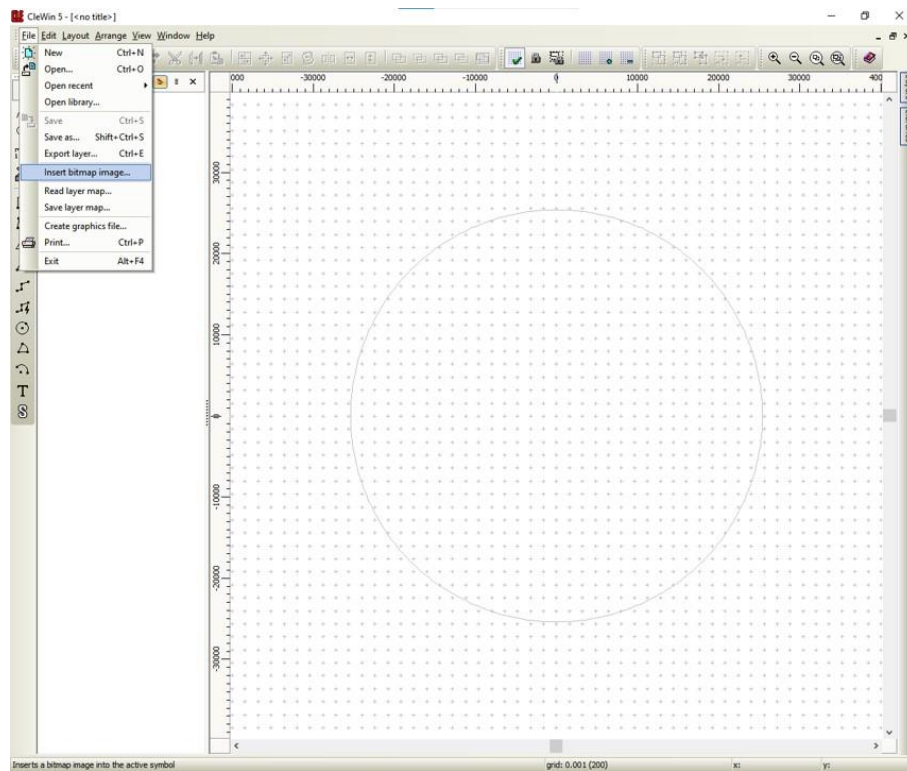

Figure 5 Insert a bitmap file in Clewin.
b. Go to File > Insert bitmap image... (Figure 5).